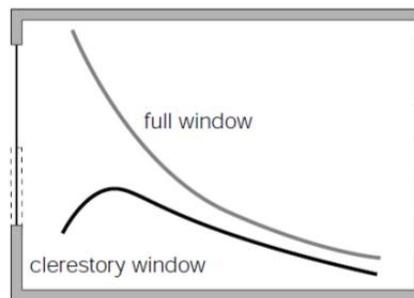

Figure 12: The curves indicate light levels for a full window and a clerestory, with the clerestory giving a softer gradient.
- Higher windows provide better light distribution, as shown in Figure 12.